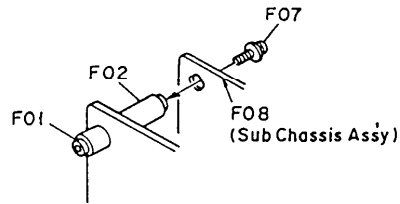

Fig. 3
- (6) Tighten F07 (Screw M3x8 (3A)) to fix F02 to F08 (Sub Chassis Ass'y). See Fig. 3.